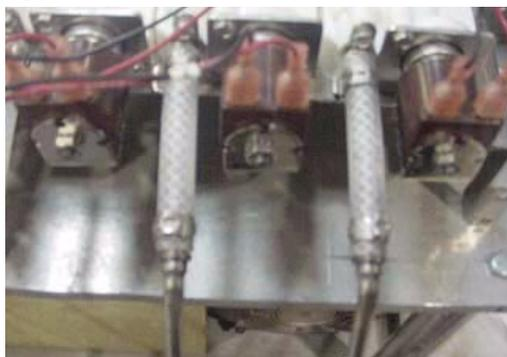

FIGURE 1
3. Remove the water inlet fittings from the back of the valve (Figure 1). These are the fittings attached to the 3-inch piece of tubing that runs from the manifold. Also remove this tubing from the manifold. Discard both the fitting and the tubing for all valves.